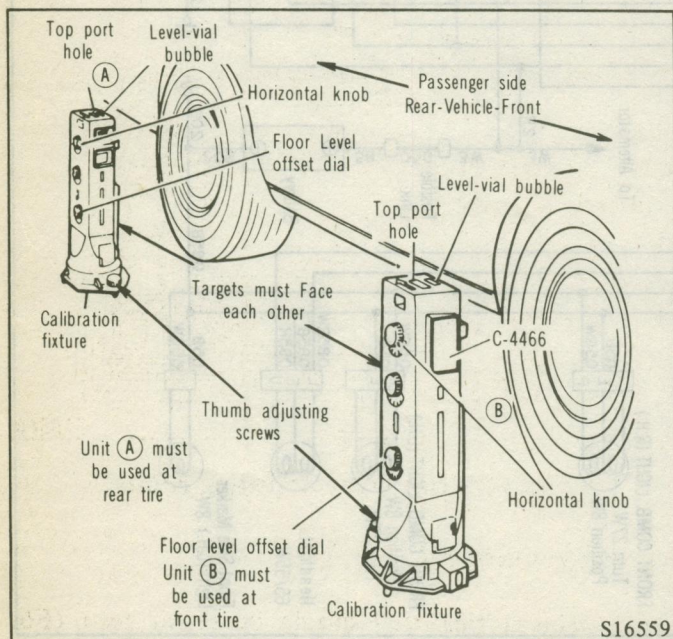

Fig. 120 Determining Slope of Floor
(1) Attach one calibration fixture to each aimer. Fixtures will easily snap into position on aimer when properly positioned. (Fig. 120)
(2) Place aimers at center line of each wheel on one side of vehicle. (Fig. 120) Unit A must be placed at rear wheel with target facing forward. Unit B must be placed at front wheel with target facing rearward.
(3) Adjust thumb adjusting screw on each calibration fixture by turning either clockwise or counter-clockwise until level vial bubble registers in a center, level position. (Figs. 120 and 121)